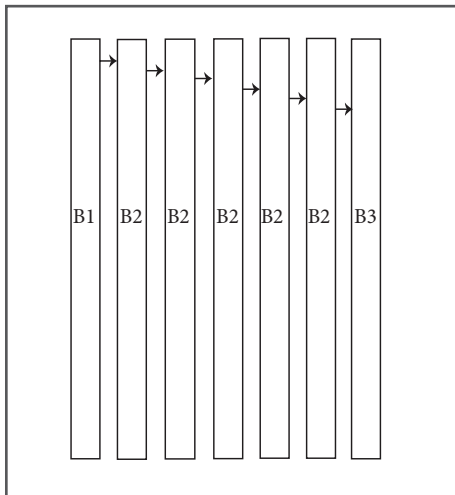

Figure 1
1. On a flat, clean surface, lay out the B1 slat with the tongue facing to the right. Lay all B2 slats next to B1 with the tongue facing to the right. Lay B3 to the right of the last B2 Slat with the groove facing left. Assemble by fitting the tongue into the groove of each piece (Figure 1).